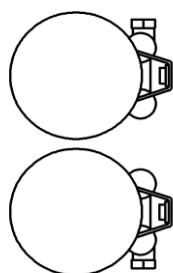

FIGURE 5
5. Remove the muffler assembly from the box and slide two supplied 27-61MSC clamps onto the muffler inlets, refer to Figure 5 for alignment. Do not install oxygen sensor at this time, as it will not clear the frame rail during installation of the muffler assembly.
12. To install the front heatshield, first slide the rear portion of the heatshield over the muffler, continue to slowly slide it forward pushing the front of the shield gently into place between the frame and motor (Hint: Spread the hose clamps apart slightly to make it easier to slide them over the muffler assembly and headpipes). Make sure the muffler clamps do not interfere with the heatshields and are aligned vertically as shown in Figure 5. Snug the heatshield clamps but **DO NOT TIGHTEN**.